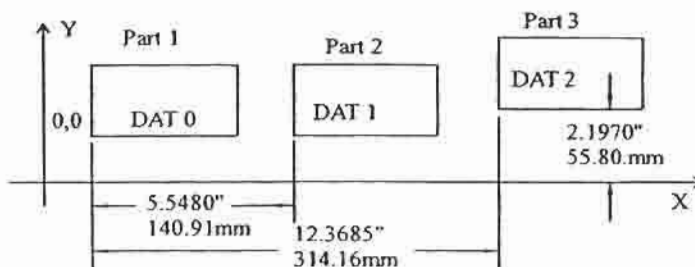

Figure 2
2. **ABSOLUTE ZERO or DATUM ZERO:** Consider the situation where 3 different parts are placed on the table. A similar machine process is to be performed on each part as in Figure 2.
2. Move to corner of Part 1 designated as DAT 0 in Figure 2